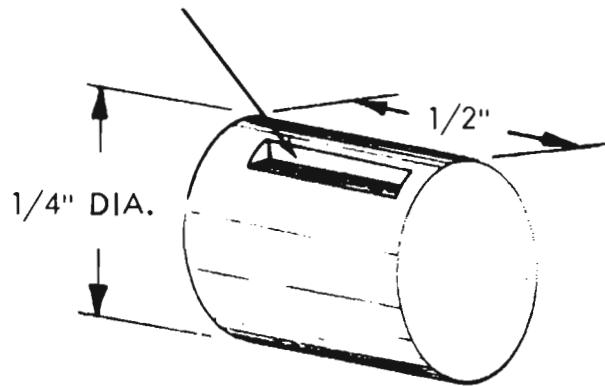

Figure 2-97—Harmonic Balancer Balance Weight Details
5. Cut a piece of 1/4" drill rod approximately 1/2" long. Using a chisel, upset a small amount of material on the side of the piece of drill rod as shown in Figure 2-97.